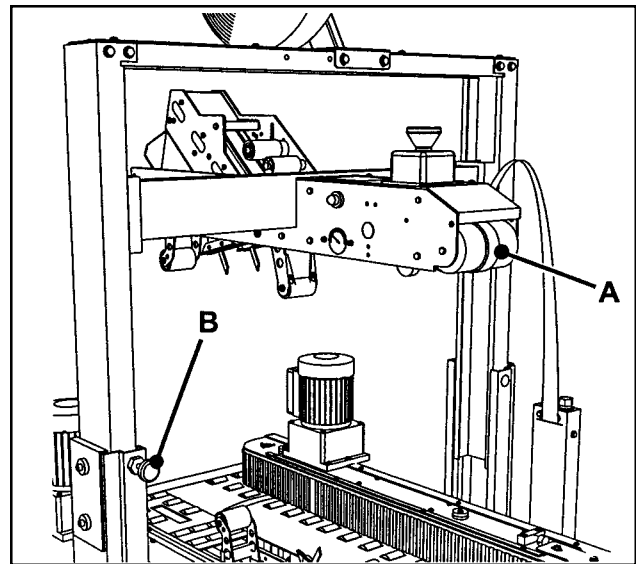
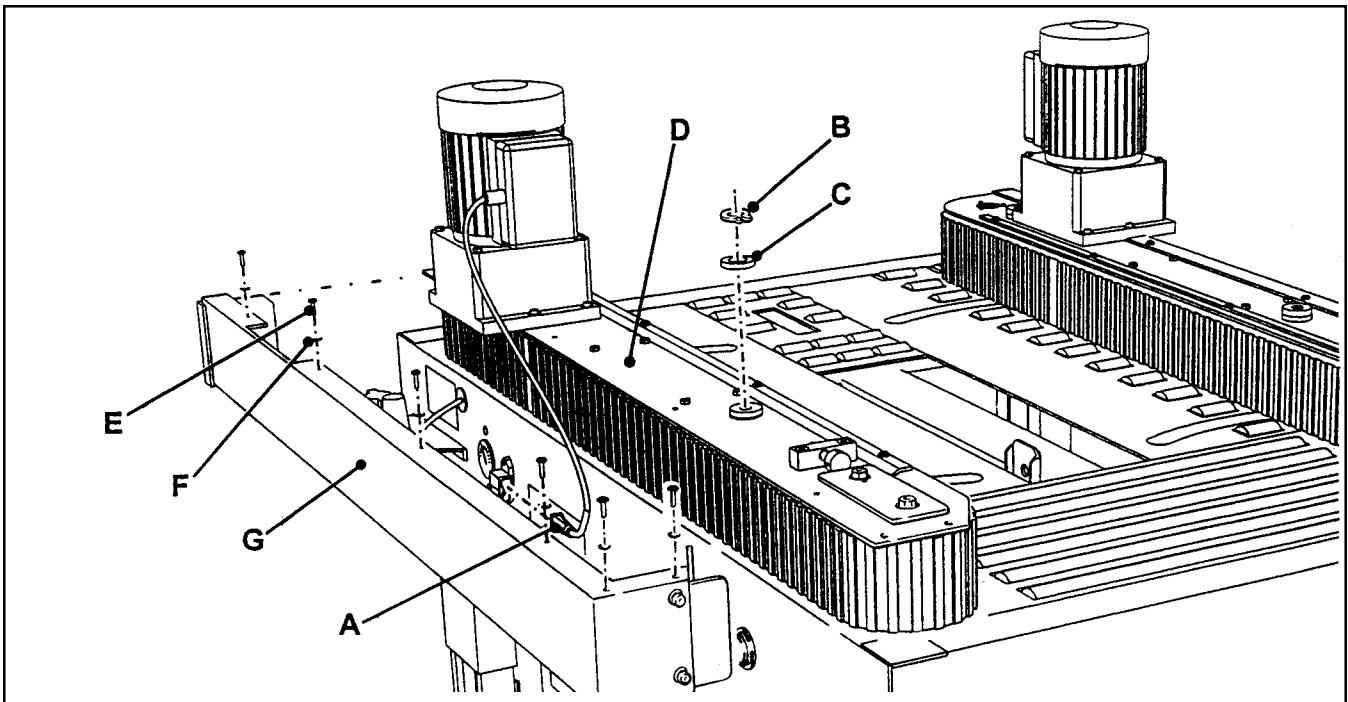

Figure 3-6 – Latching Knob, Upper Taping Head Frame
Figure 4-2 – Box Drive Belt (Left Side View – Infeed End)
11 Latching Knob, Upper Taping Head Frame –Figure 3-6
3. Push and hold the latching knob (B). Figure 3-6, page 16.
4. Release switch (A). Knob (B) will lock the upper head assembly in the upper position.
6. Disconnect motor plug (A). Figure 4-2.
7. Remove and retain snap rings (B) and special washer (C) from front and rear arm assembly pivots. Figure 4-2.
8. Lift side drive assembly (D) up and off arm assembly pivots. Figure 4-2.
9. Remove and retain the four screws (E), washers (F) and side cover (G). See Figure 4-2.